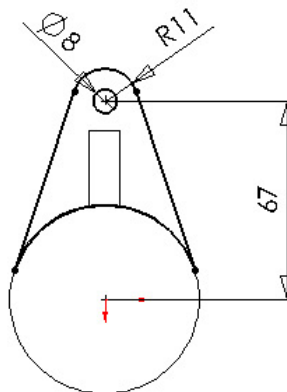

Figure 5 Lever Head Ear Profile
23. Sketch and dimension the lever head ear as shown in Figure 5.